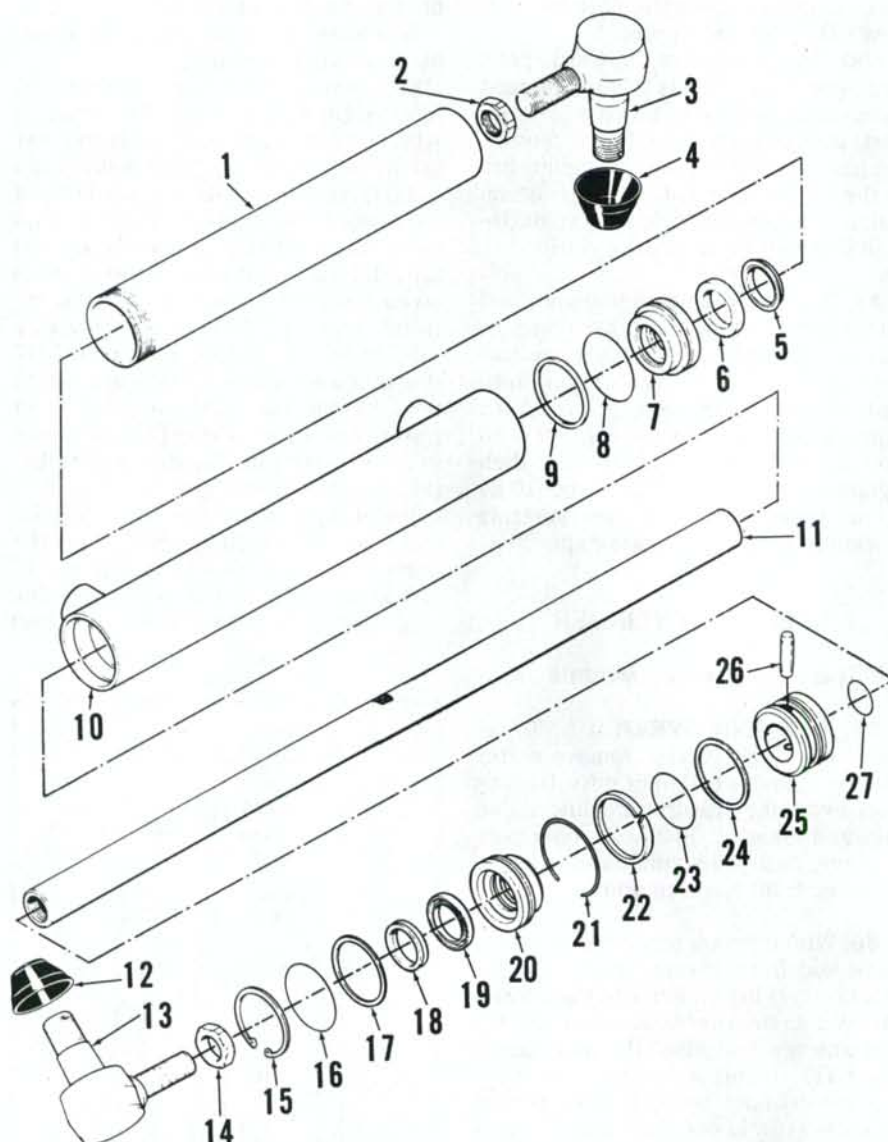

Fig. 35—Exploded view of early steering cylinder assembly used on two-wheel drive models. Piston and rod are integral on later cylinders.
36. With cylinder removed, move rod back and forth several times to clear fluid from cylinder. Refer to Fig. 35 and proceed as follows: Loosen jam nut (2) and unscrew ball joint (3) from cylinder head (1). Using a spanner wrench, remove cylinder head (1) from ported cylinder (10). Loosen jam nut (14) and unscrew ball joint (13) from rod (11). Remove gland assembly (items 5 through 9); then, withdraw rod (11) and piston assembly (items 22 through 27). Remove snap ring (15) and withdraw gland assembly (items 16 through 20). Remove retaining ring (21). Remove and
Reassemble steering cylinder as follows: Lubricate piston "O" ring (27) with petroleum jelly and install in inner groove of piston (25). Slide piston onto rod (11) pin side toward threaded end of rod, align holes in piston and rod, then press roll pin (26) through piston and rod until 1/4 inch (6.35 mm) of pin extends on each side of rod as shown in Fig. 36. Install seal ring (24—Fig. 35) in rear, outside groove of piston. Lubricate "O" ring (23) with petroleum jelly and install next to seal ring (24) on pin side of piston. Install wear ring (22) on piston in groove over pin. Place retaining ring (21) in the inside groove of ported cylinder (opposite of threaded end). Install rod and piston assembly into the ported cylinder with threaded end of rod at end of cylinder with retaining ring. Install rod seals (6 and 19) into
joints into rod and cylinder head until center of ball joint is 2 inches (50.8 mm) from end of cylinder as shown in Fig. 36. Tighten jam nuts (2 and 14—Fig. 35) to 30-40 ft.-lbs. (41-54 N·m) torque.